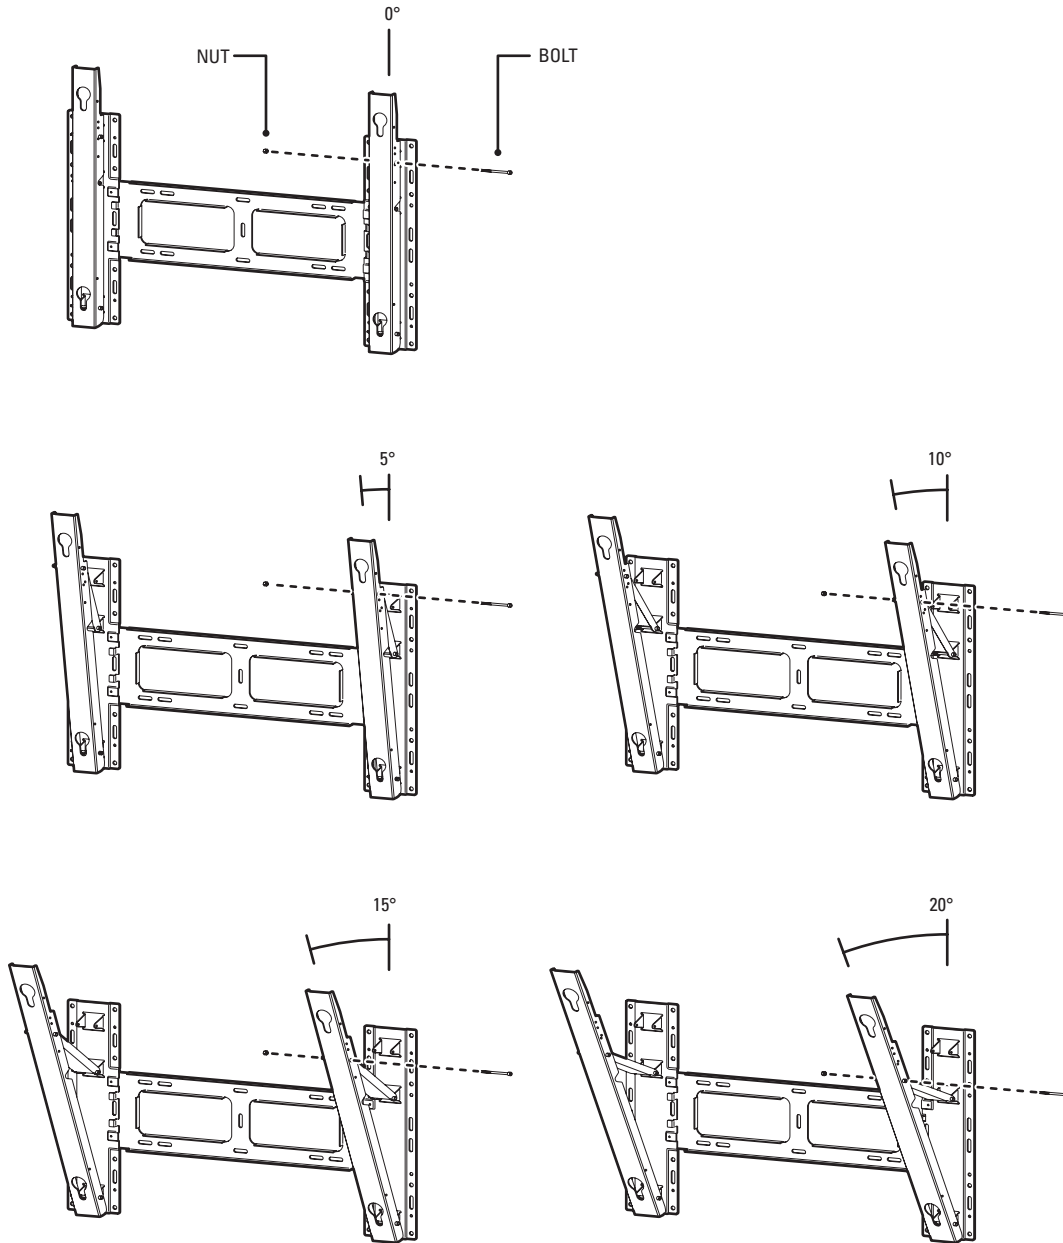

Figure 2. Tilt Angle
2. Use the included six bolts, washers, and nuts to assemble the tilting mechanism. (Refer to Figure 2.)
- c. Finally, install a bolt, washer, and nut where the tilt adjustment mechanism attaches to the tilt arm. Attach so the tilt arm is completely upright (0 degrees in Figure 2) for attaching the monitor.
1. Refer to Figure 2. Make sure the mounting bracket angle is set to zero.
8. Set the tilt angle (refer to Figure 2). Be careful not to pinch your fingers when adjusting the angle.